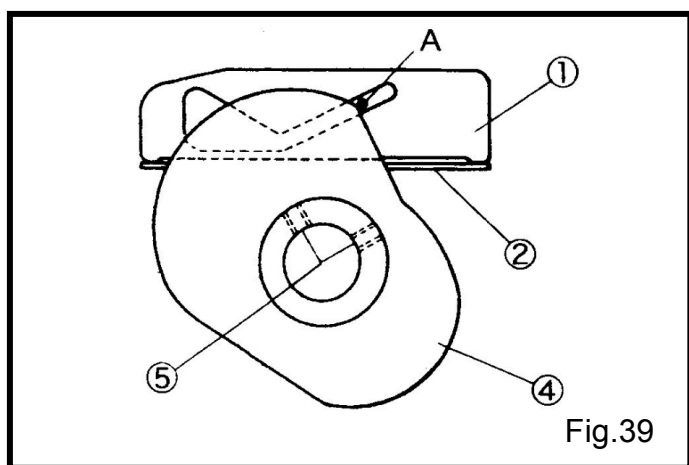

Fig.39
底線導板①和支撐②要成一直線。(Fig.39)
(Fig.39,40)
Align the right of the looper thread take-up guide① with that of the eyelet supporting plate②.(Fig.39)
Position the looper thread take-up④ as standard so that looper thread passes at the point A when the needle bar③ is lowered 2.8 mm from the highest point. Loosen the screws⑤ to adjust it.(Fig.39,40)